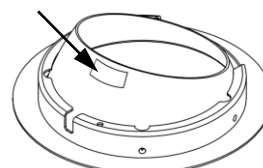

Fig.3
3. Align the label that is in the center with the label that brings the Light Engine C4_A (Fig.3).